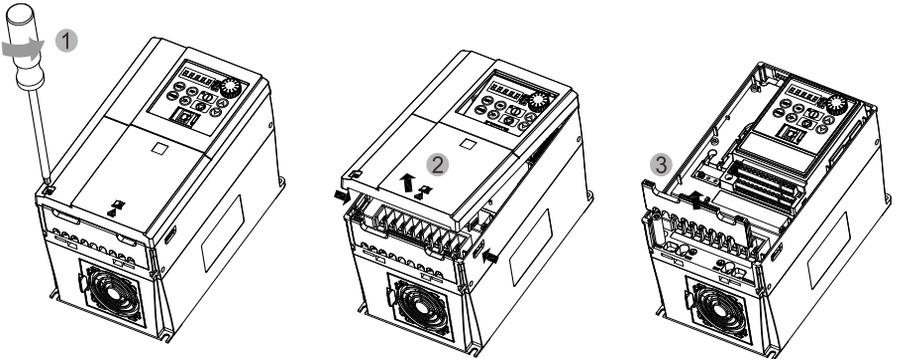

Fig. 2-5 Disassembly of keyboard
⑤ Disassembly and installation of keyboard
Disassembly of keyboard is shown in Figure 2-5: Use a phillips screwdriver to turn the screw counterclockwise along direction ① to loosen the screw, then remove the cover along direction ②, and finally remove the wire guard along direction ③ Remove the wire guard board